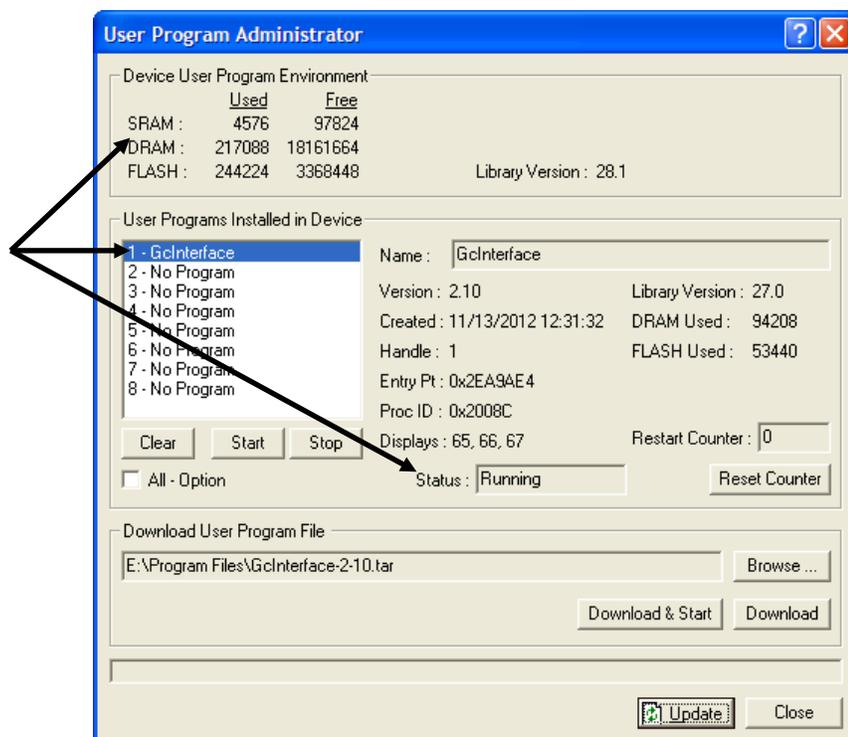

Figure 14. User Program Administrator
11. Click **OK**. The User Program Administrator screen displays (see *Figure 14*). Note that: